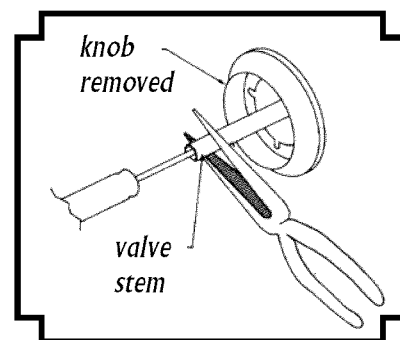

Figure 14-1 - Adjusting brass burner low heat setting.
- 4) While holding the valve shaft with pliers, insert a thin flat tipped screwdriver into the shaft and while viewing the burner, adjust to a minimum stable flame (see figure 14-1).